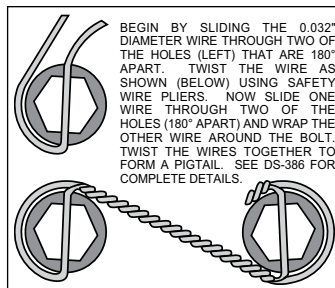

Figure 4. Safety Wire Diagram
•Orient the rotor (10) and the hat (11) as shown in Figure 2 and Photo 6. Attach rotor to hat using bolts (13) and washers (12). Apply red Loctite® 271 to the bolt threads and torque to 155 in-lb using a criss-cross pattern. For an added measure of security, the bolts may be safety wired using standard 0.032 inch diameter stainless steel safety wire as shown in Figure 4. Refer